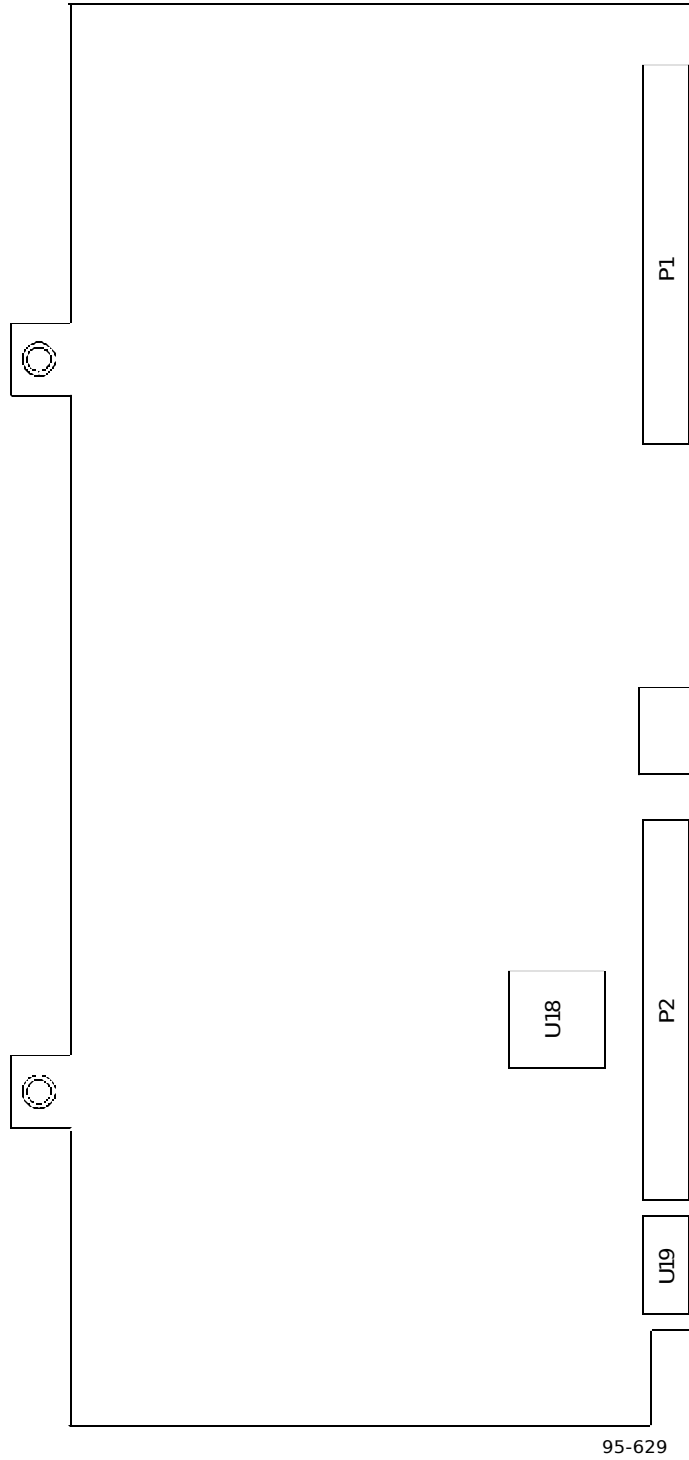

Figure 4-2. Location of Remote Interface EPROM, U18, on Remote Interface Card, A3
4. Locate the Remote Interface EPROM U18 which is located on the bottom left corner of the card. Refer to **Figure 4-2**.